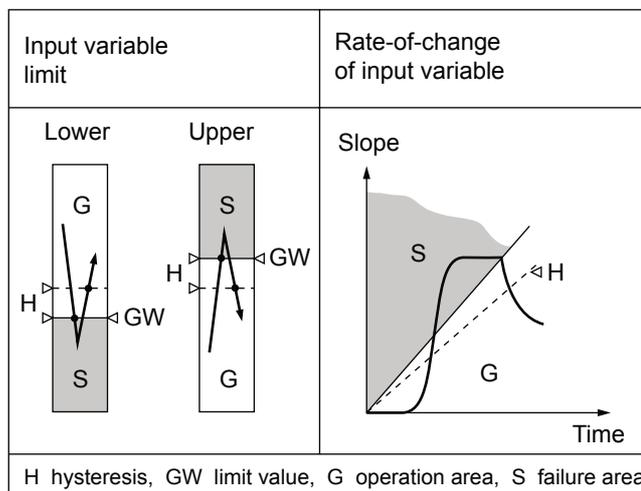

Fig6. Switching function according to limit monitored
- Lower limit value of the measured variable (see Fig. 6, left)
- Upper limit value of the measured variable (see Fig. 6, left)
(see Fig. 6, right)